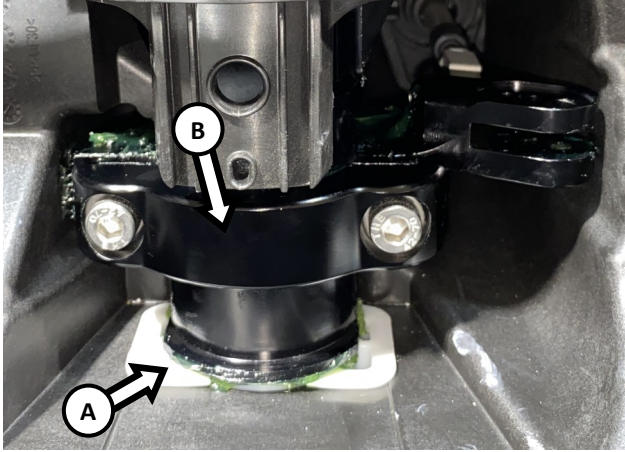

Figure 14
Insert billet steering shaft into steering column support until end of steering shaft is seated completely into lower steering shaft bushing (A). (See Figure 14) **NOTE: Steering shaft fits only one way in steering column.**
Secure billet steering shaft in steering column support with supplied billet steering clamp (B) and M8x25 SHCS & M8 flat washers (2 each). (See Figure 14) **NOTE: Apply red Loctite to threads. Torque to 15lb-ft/20N-m.**